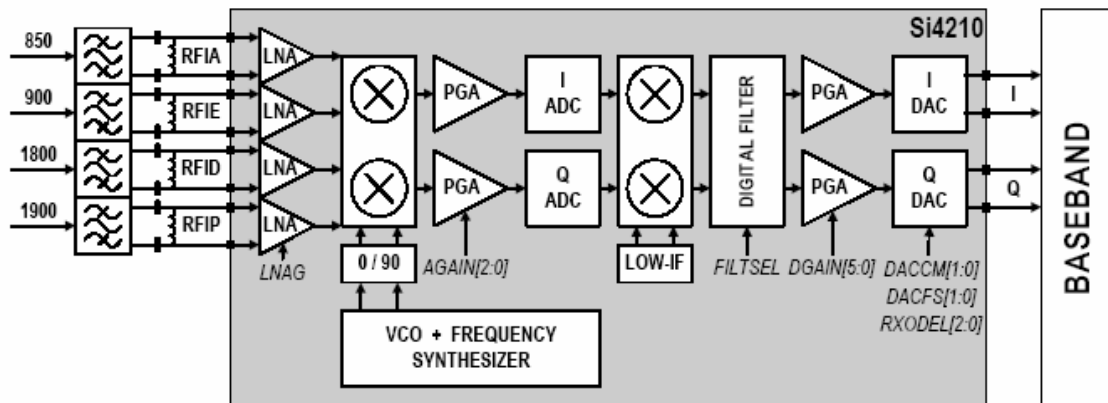

Figure. 3-2 SI4210 RECEIVER PART
The LNA inputs are matched to the 150 Ω balanced output SAW filters through external LC matching networks. The LNA gain is controlled with the LNAG[1:0] and LNAC[1:0] bits in register 05h (Figure 3-2).
B. Intermediate frequency (IF) and Demodulation
A quadrature image-reject mixer downconverts the RF signal to a 100KHz intermediate frequency (IF) with the RFLO from the frequency synthesizer. The RFLO frequency is between 1737.8 to 1989.9 MHz, and is internally divided by 2 for GSM 850 and E-GSM 900 modes. The mixer output is amplified with an analog programmable gain amplifier (PGA), which is controlled with the AGAIN[2:0] bits in register 05h (Figure3-2).